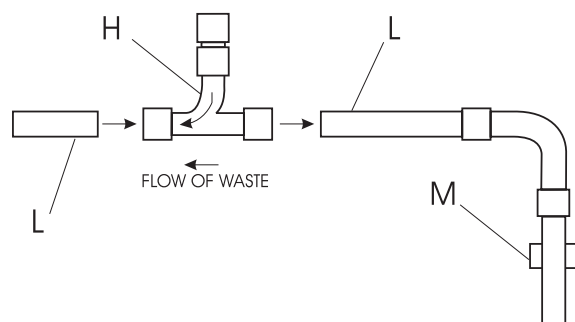

Fig. 7
- 3.5 The Swept Tee-piece with Air Admittance Valve (H) should be installed at the beginning of the horizontal run after the vertical lift (See Fig. 7) to avoid siphoning within the pipe work. To install the Tee-piece, you will need to cut the Waste pipe and trim down any excess plastic. Apply Solvent Cement to the inside of the Tee-piece and push into place over the Waste Pipe.
ATTENTION The Swept Tee-piece should be installed with the sweep going against the flow of waste. (See Fig. 7)